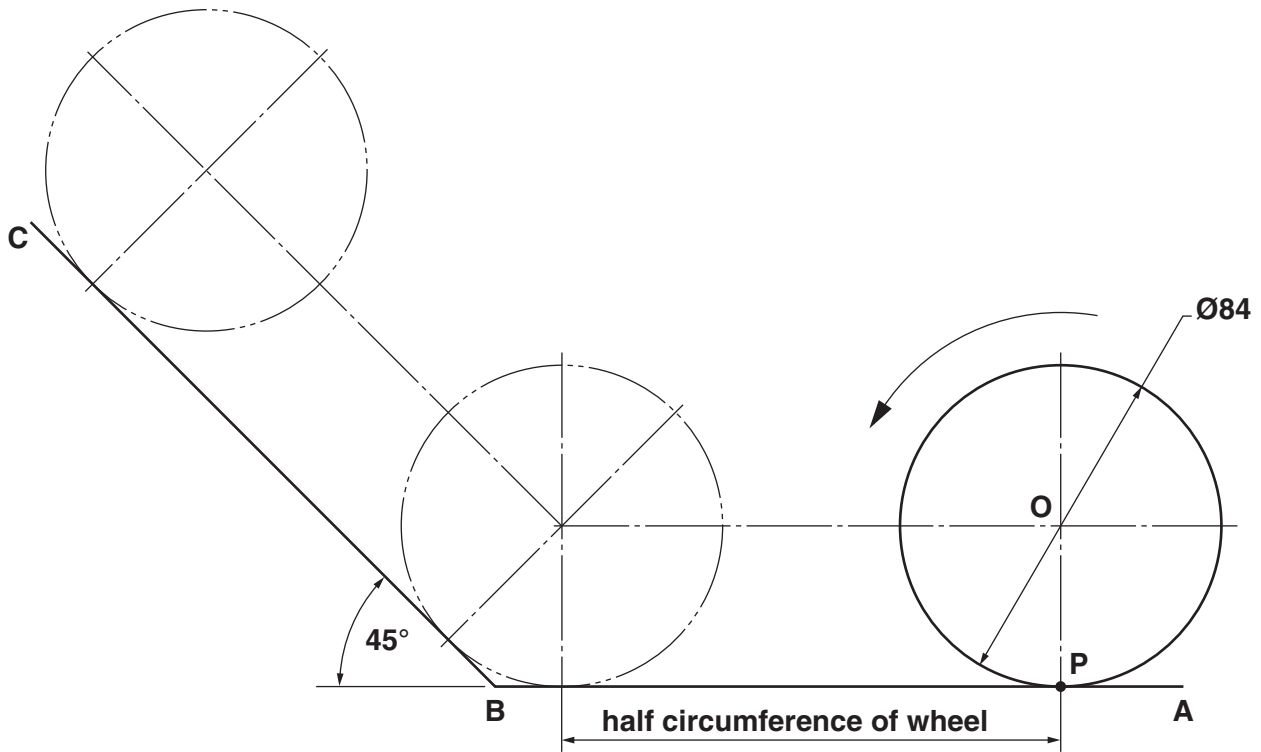

Fig. 2
- 2 Part of the mechanism of a packaging machine is shown in Fig. 2. The wheel, centre **O**, rolls without slipping along the horizontal surface **AB** and then up the inclined surface **BC**.